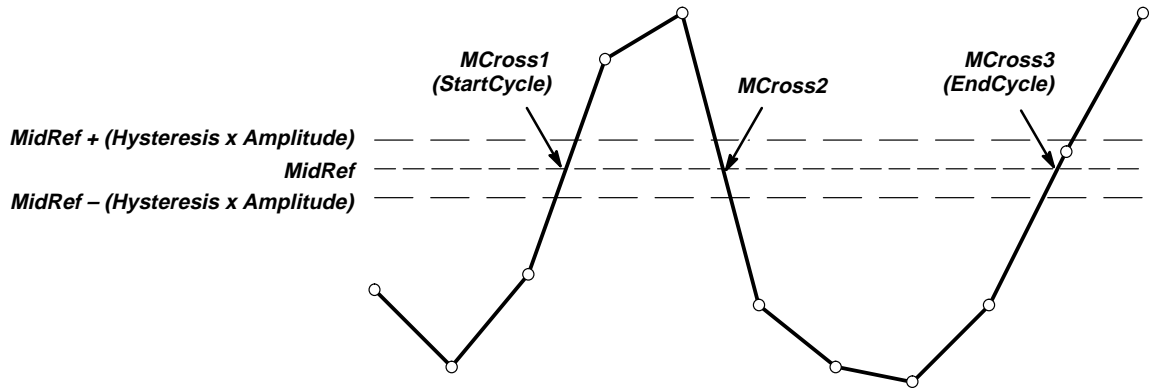

Figure A-1: MCross Calculations
**MCross1, MCross2, and MCross3** — refer to the first, second, and third *MidRef* cross times, respectively. See Figure A-1.